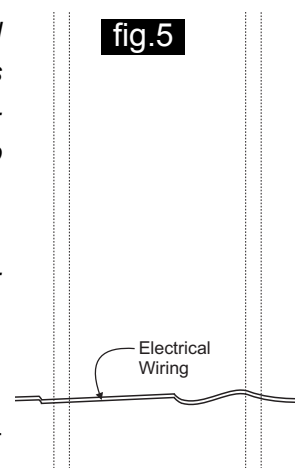

fig.5
2. Determine that there are no obstructions behind the desired cutout area. This is accomplished by drilling a hole in the center of the cutout area and using a long "L"-shaped piece of metal (like a coat hanger) to "feel around" behind the wall. Most walls will have a run of Romex (electrical wiring) approximately one foot up from the floor (fig. 5). **Do not attempt to cut the electrical wires!** In these cases, the enclosure will need to be mounted above the electrical wiring. If you discover any other obstructions (such as pipes, conduits or ducts), fill the hole with patching compound and try another location.